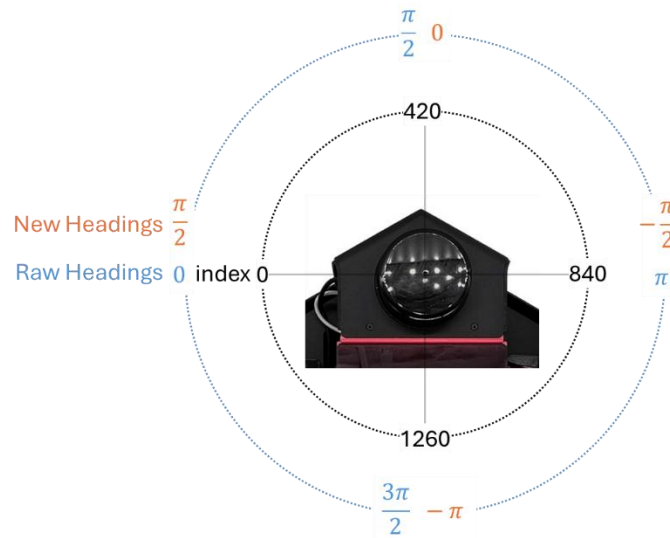

Figure 3. LiDAR measurement correction
2. Notice that the raw headings signal is connected to a **Gain** block with a value of -1 and a **Bias** block with a value of $\pi/2$. This is to correct the headings such that the angle value of 0 corresponds to the front of the QBot, as shown in Figure 3. In addition, the angles now are now increasing counterclockwise, consistent with the positive convention of our reference frame.